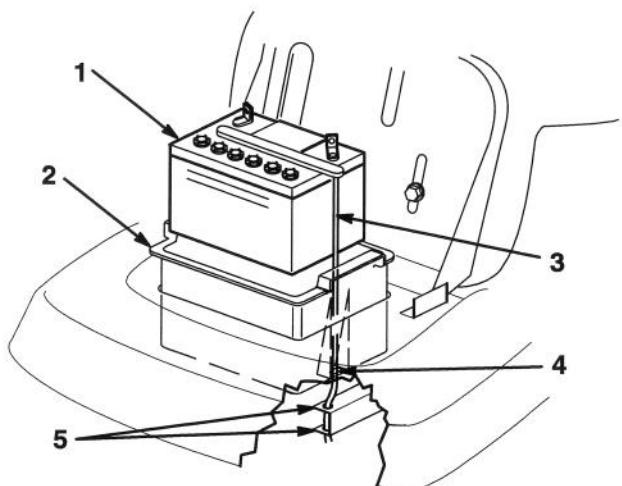

Figure 20
5. Remove the battery box, battery, and long vent tube from the chassis (Fig. 20).
1. Put the battery into the battery box and slide the vent tube into the channel and through the slot in the bottom of the box (Fig. 20).
**IMPORTANT: Look down into the cut out area where the battery box fits into the chassis. Notice the hole at the end of the right frame member (Fig. 20). Always install the long battery vent tube through the hole to prevent battery acid from corroding the tractor and mower.**
2. Install the battery box and battery into the chassis (Fig. 20). Make sure to slide the end of the vent tube through the hole in the frame (Fig. 20).